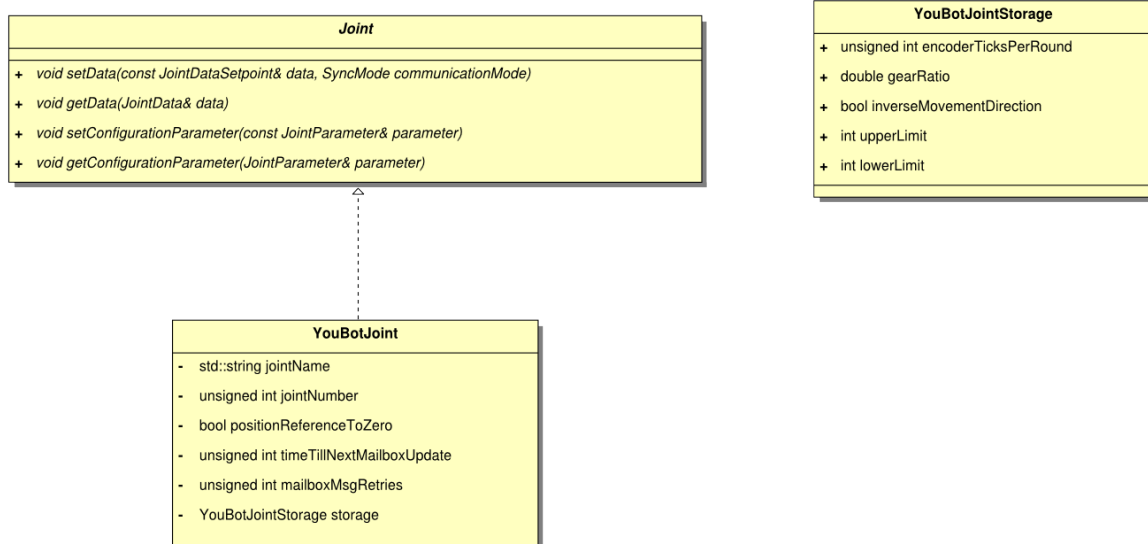

Figure 7.3: youBot joint interface.
- The class `YouBotJoint` represents a joint either of the arm or the platform (see Figure 7.3).
The access to properties of each sub-system is organized hierarchically. For each entity (system, sub-system) represented in the API there is a set of configuration classes. These configuration classes enable one to get or set particular configurations for that entity. This is performed through `getConfiguration()` and `setConfiguration()` methods. For instance for joints this might look like as depicted in the figure 7.3.